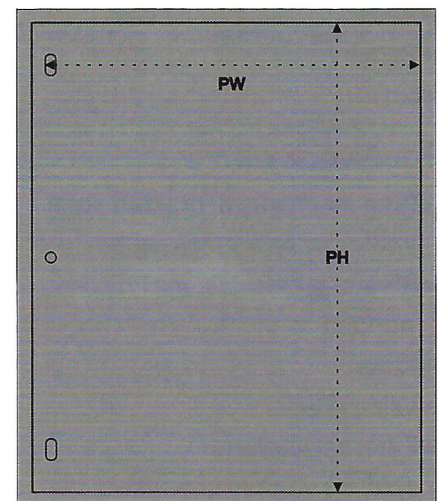

Fig 2: Paper Measurements
paper) or be placed in plastic sheet protectors (pockets) with side holes that go into the rings. The approach for measuring is the same in either case. Referring to **Figure 2**, the Paper Height (PH) is the vertical length of the paper or sheet protector, while the Paper Width (PW) is measured from the leftmost edge of the holes to the rightmost edge of the paper or sheet protector. [**Fig 2**]